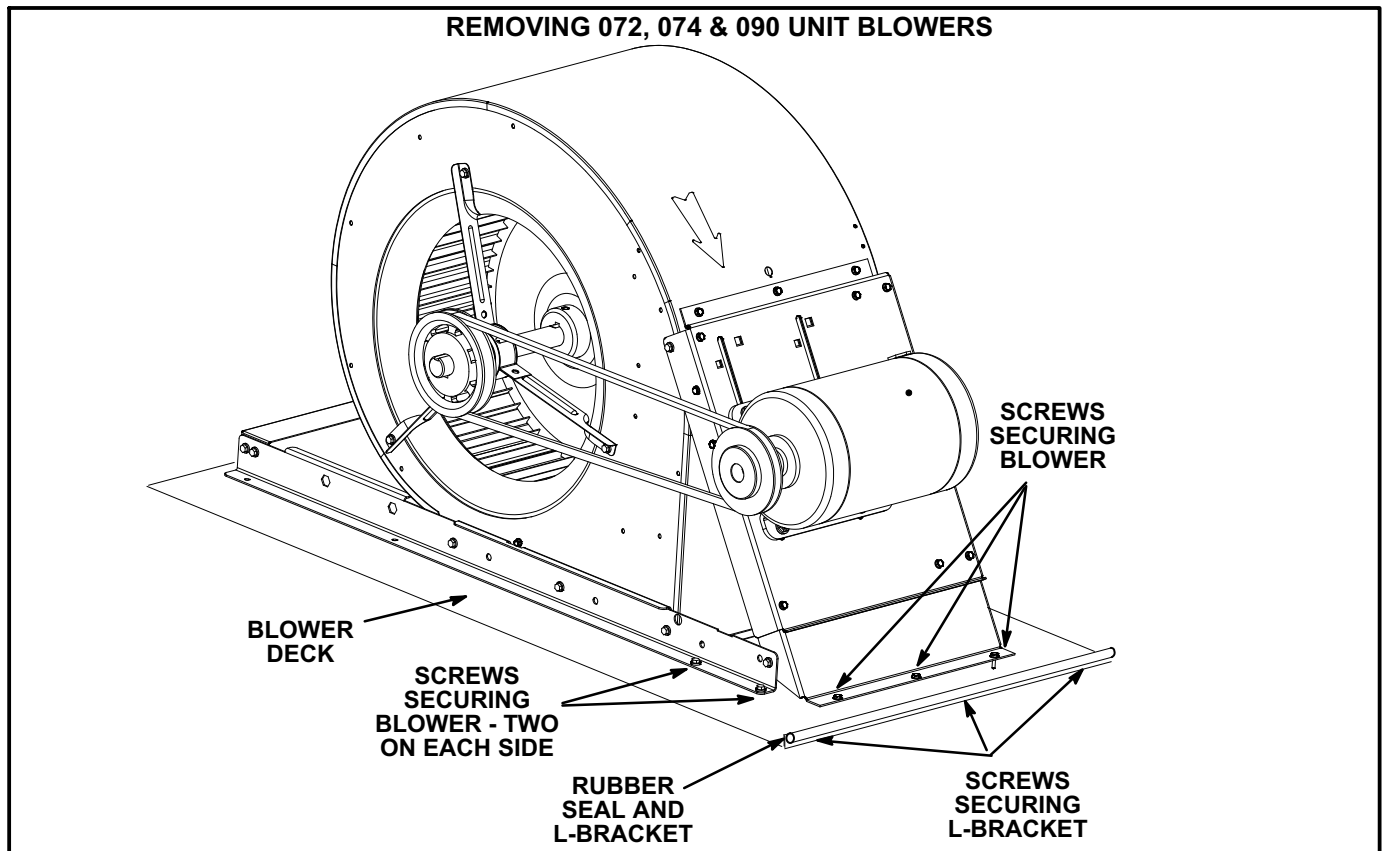

FIGURE 33
- 1- Peel the rubber seal off of the L-bracket on the blower deck. See figure 33.